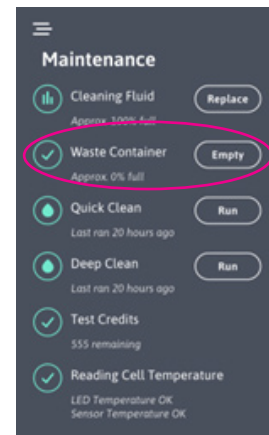

Figure 35
5. Press Waste Container Empty reset button in the Maintenance Menu to reset (Figure 35).